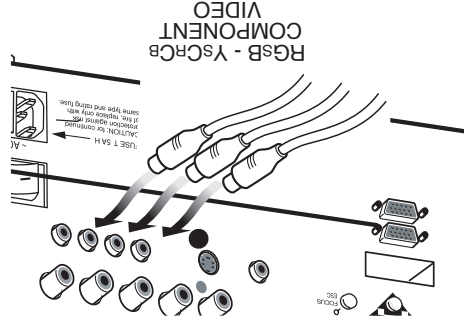

Fig. 19
This input is suitable for a RGB video signal, or for a Component (YCrCb) type, with composite synchronisation on the green signal (RGSB) or on the luminance (Y) signal (YsCrCb) through a cable with RCA/Phono or BNC type connector (Fig. 19).